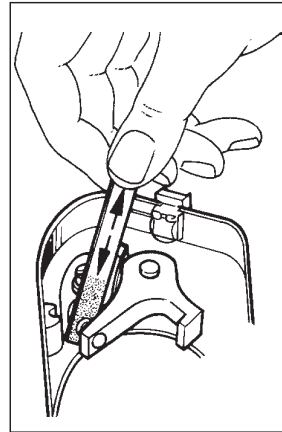

Fig. 10
- Open points and remove all traces of dust. (Fig 10).